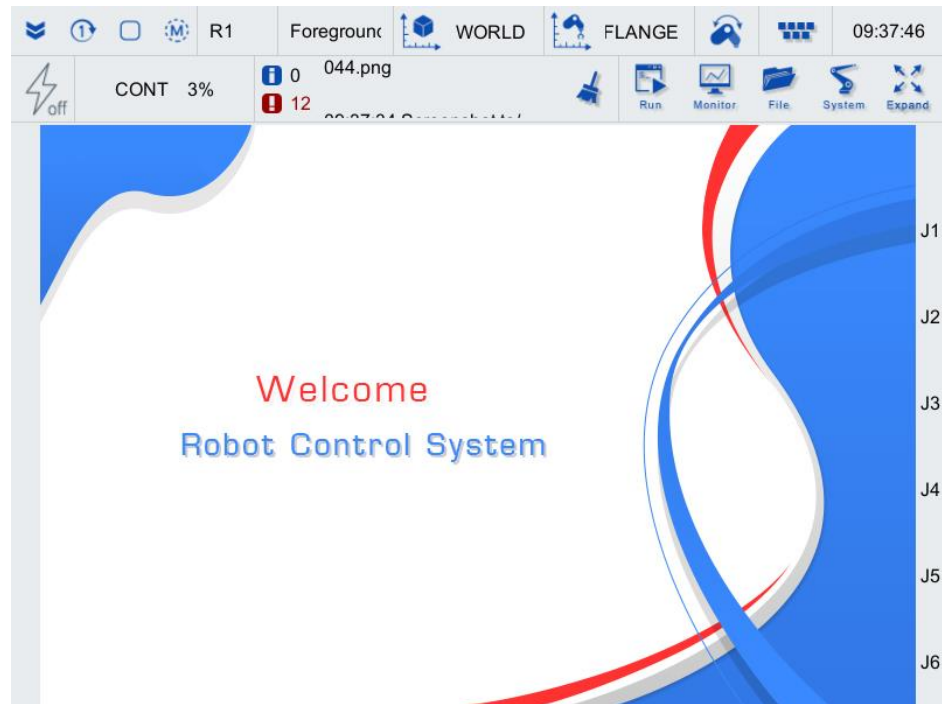

Figure 5-31 Teach pendant main interface
Step1. Log in to the teach pendant and you will see the main interface of the teach pendant as shown in Figure 5-31.